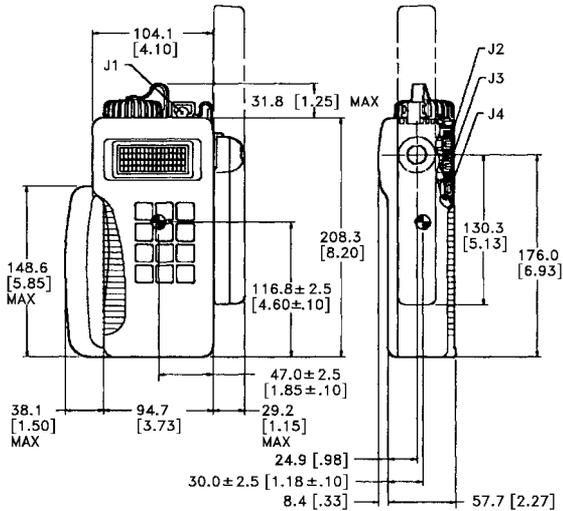
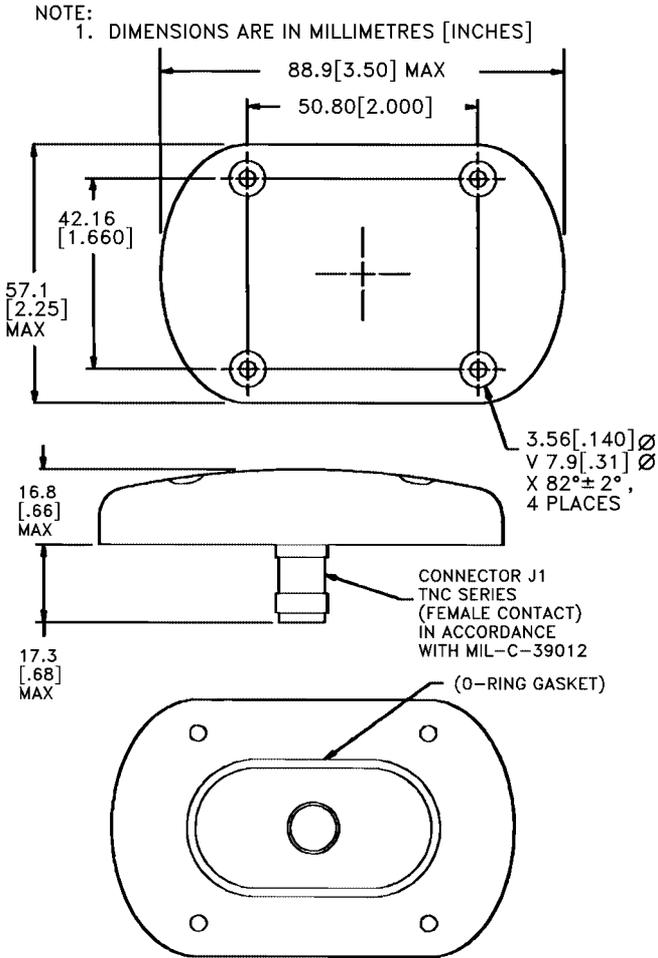

Figure 14-1 AN/PSN-11.
Figure 14-5 Aircraft Antenna.
14.1.2 General. Figure 14-1 through Figure 14-5 provide the installation drawings unique to the PLGR equipment. Specific dimensions, centers of gravity, and notes are provided where applicable.